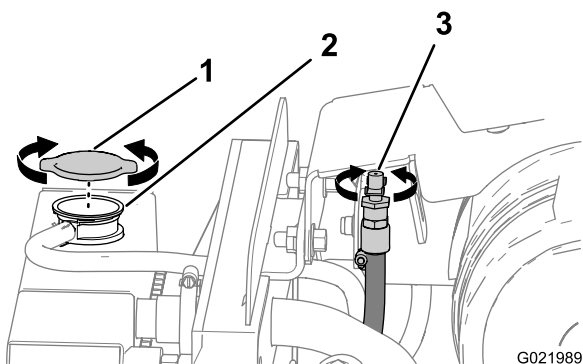
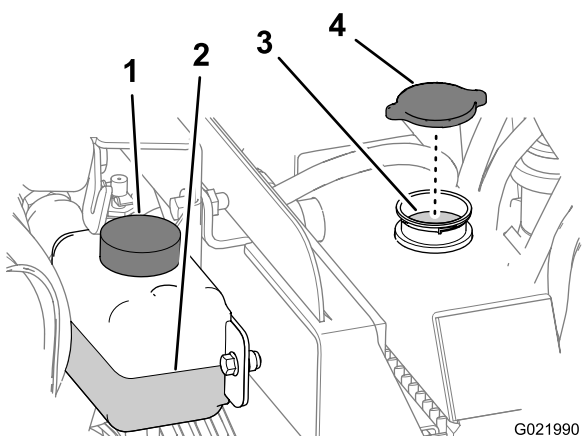

Figure 78
Figure 79
4. Open the vent valve for the engine (Figure 78).
5. Remove the radiator cap from the filler neck of the radiator and check the coolant level (Figure 78 and Figure 79),
6. If the coolant level is low, add coolant until the level is up to the bottom of the filler neck (Figure 79).
2. Remove the radiator cap (Figure 78 and Figure 79).
- B. Open the vent valve (Figure 78).
- A. Open the vent valve (Figure 78).
1. Remove the radiator cap (Figure 78 and Figure 79).
2. Open the vent valve (Figure 78).